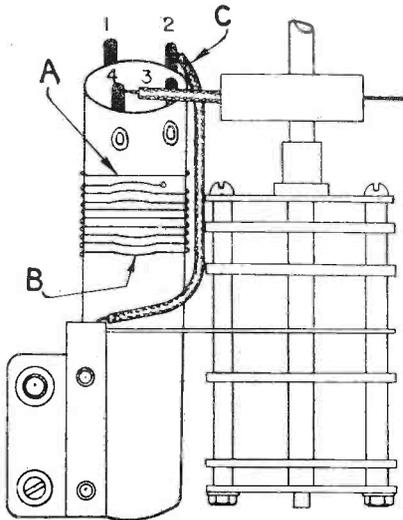

Fig. 1. Indicating coil changes and adjustments for Silvertone Models 1722 and 1732
short-wave antenna coils. Referring to Fig. 1, the single turn of green silk covered wire, A, should be moved as
- (4). Run an additional ground connection from lug 2 (C in Fig. 1) to the low side of the trimmer condenser mounted on the wave-changing switch frame. (There is one ground connection from this lug to the variable tuning condenser frame. This connection should not be disturbed.)